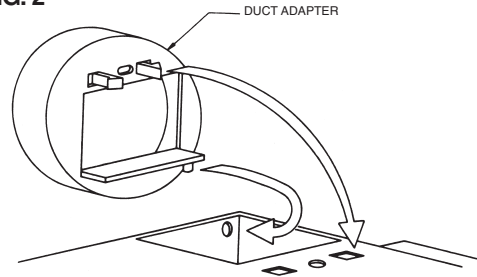

FIG. 3
2. Attach housing to joist with screws or nails. Housing is stamped to show a line at 3/4" for standard sheetrock and plaster and 3/8" for drywall. See Fig. 3.
NOTE: The knockout support may be reversed if desired, to open alternate knockout hole and cover unused hole. See Fig. 3. If both holes are to be used, simply remove knockout.